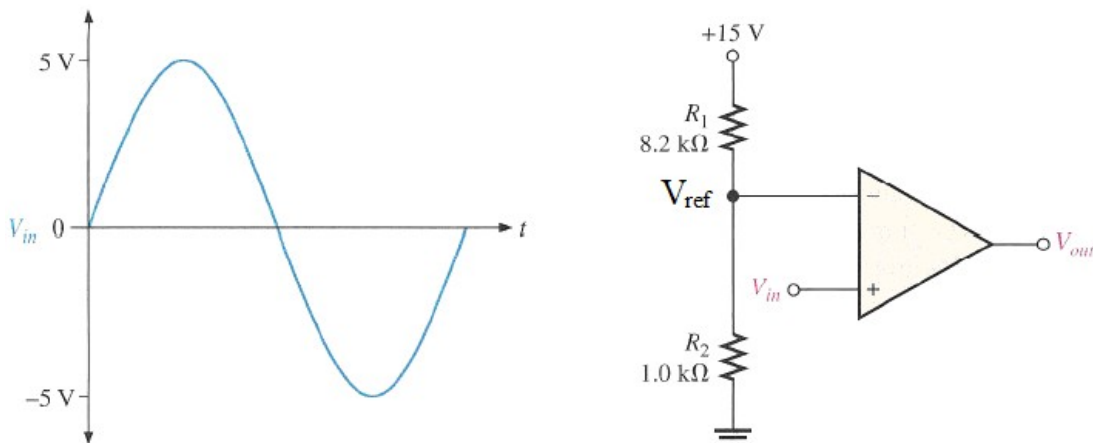

Fig.41
**Example2:** Draw the output showing its proper relationship to the input signal of the comparator circuit shown in Fig.41. Assume the maximum output levels of the op-amp are  $\pm 12\text{V}$ .